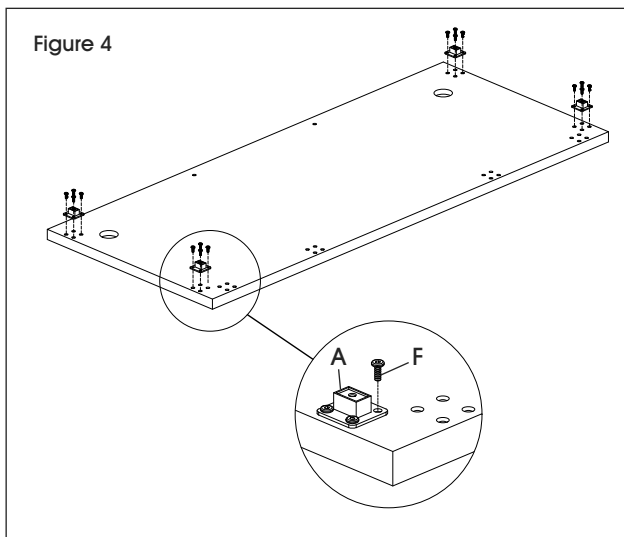

Figure 4
- Place desktop upside down. Align leg frame connector (A) with holes in corner of desktop. Insert four M6 x 15 mm bolts (F) and tighten. Repeat for three remaining leg frame connectors. (See Figure 4)